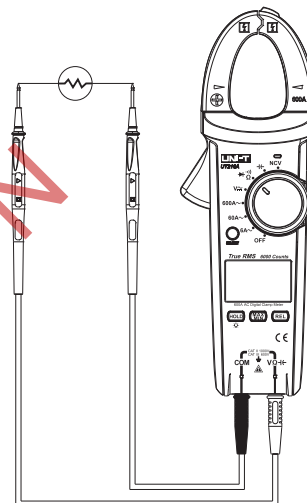

Figure 10
7. Diode measurement (See Figure 10)